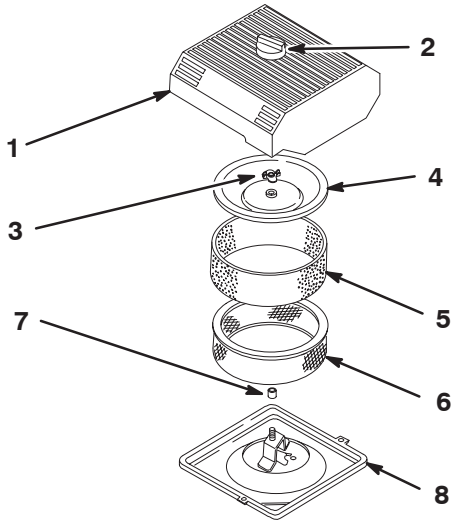

Figure 28
3. Clean around the air cleaner to prevent dirt from getting into the engine and causing damage (Fig. 28).
4. Loosen the knob on the air cleaner cover and remove the cover (Fig. 28).
5. Carefully slide the foam element off the paper element (Fig. 28).
6. Unscrew the cover nut and remove the cover and paper element (Fig. 28).
1. Carefully slide the foam element onto the paper air cleaner element (Fig. 28).
3. Install the cover nut finger-tight against the cover (Fig. 28).
- Install the air cleaner cover and knob (Fig. 28).